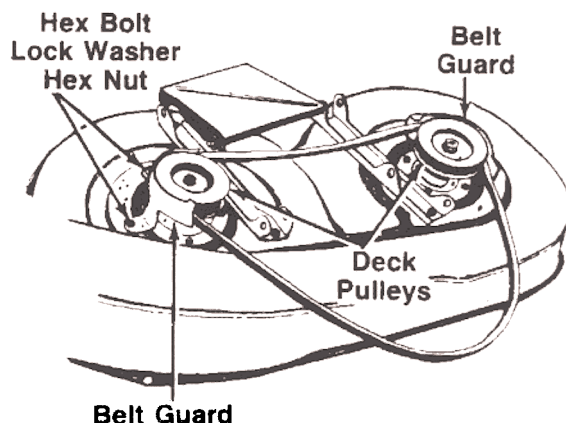

FIGURE 19.
10. Remove the belt guards at each deck pulley by removing the hex bolts, lock washers and hex nuts. See figure 19.